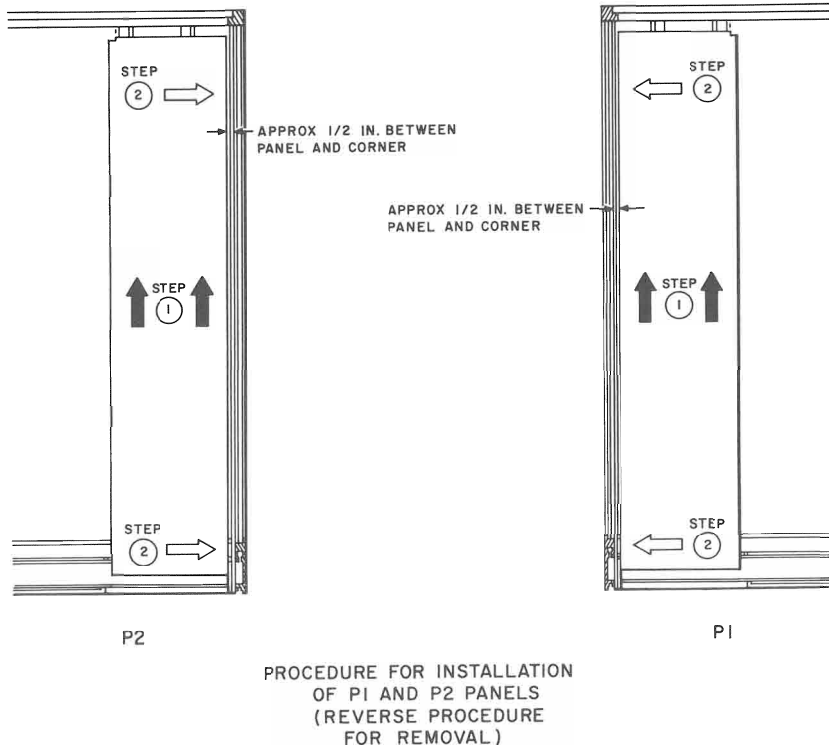

Fig. 28—Installation and Removal of P1 and P2 Panels
- (1) Remove coin telephone set.
- (2) Remove shelf assembly as directed in 4.20.
- (3) Remove blower switch (from P1 only).
- (4) Remove two .164-18 by 5/16 Phillips round head self-tapping screws.
- (5) Slide panel (P1 to right or P2 to left) until it is free of the retaining clips and slide the panel down (Fig. 28).
- (6) Install using reverse procedure.